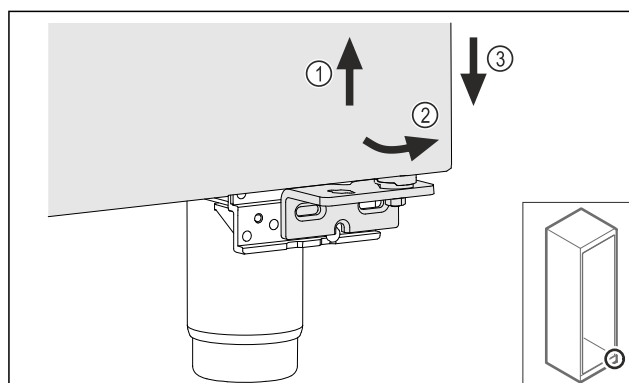

Fig. 27
- Lift the door slightly Fig. 27 (1), tilt it forwards at the bottom Fig. 27 (2) and lower it Fig. 27 (3).